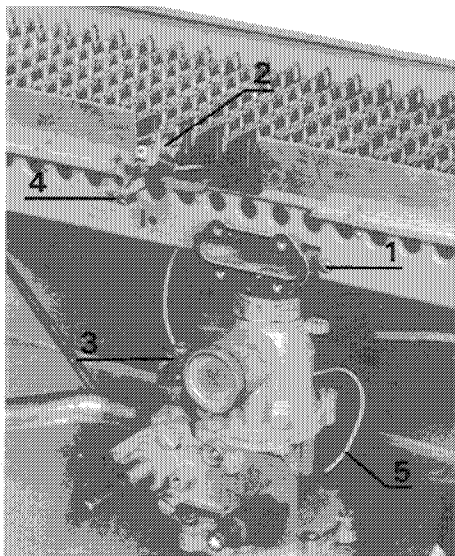

Fig. 24
- g) Remove thermocouple and electrode from bracket by undoing retaining screw (2, fig. 24) and parting both halves of bracket.
- c) Slacken grub screw (3, fig. 24) holding pilot tube.
- f) Slide thermocouple support bracket (4, fig. 24) forwards and lift clear of burner.
- g) Remove clamping screw (2, fig. 24) and part thermocouple support bracket.
- a) Pull electrode lead (5, fig. 24) off to the rear.